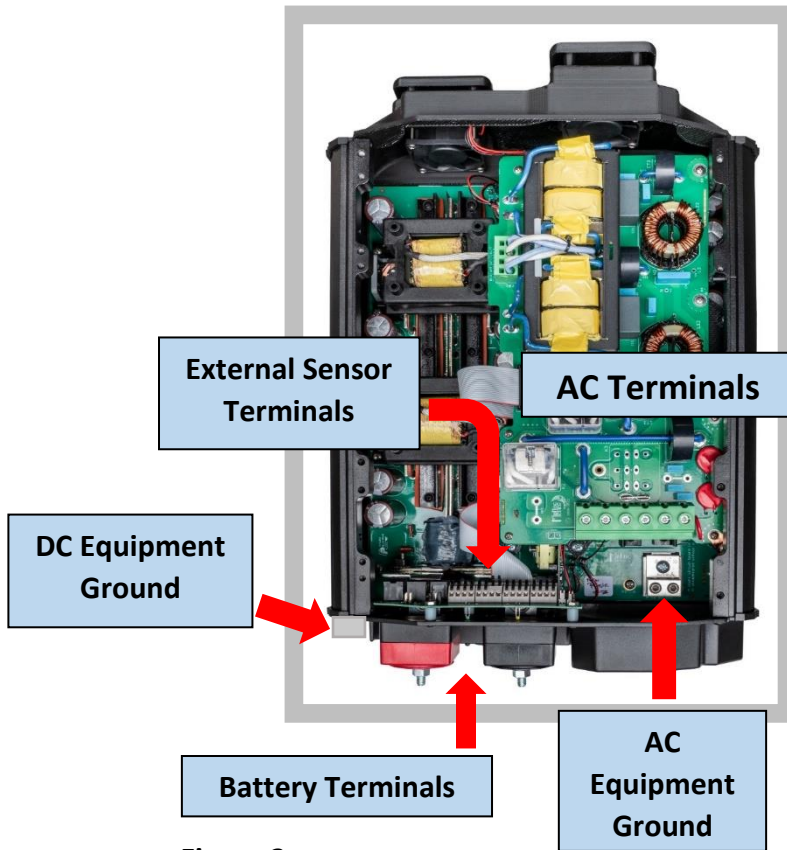

Figure 3
- Take note of the terminal blocks and wiring connection points of the Rosie, **Figures 3 & 4.**